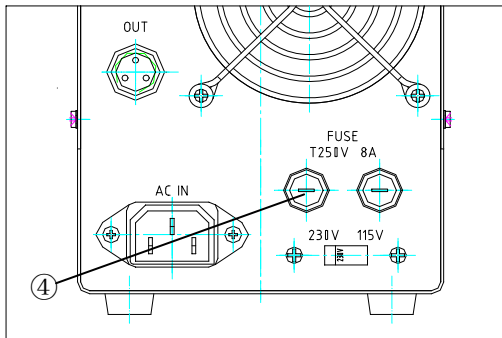

Fig.6
2.5 Fuse Replacement (Fig.6)
- 1 Set the main switch ① to “O” (OFF) and unplug the power cord before replacing fuses.
- 2 Using a flat-blade screwdriver, Remove each of the fuses holders ④ by turning it counter- clockwise and pulling out.